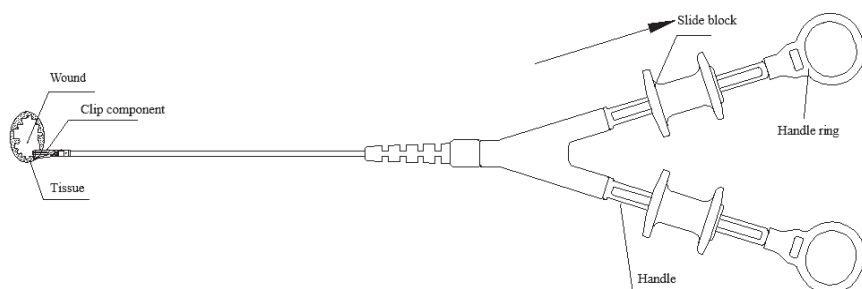

Fig 4 Clamping
- A. Close Disposable Dual Action Tissue Closure Device at the required position, and slowly move the slide block to the direction of the handle ring until there is resistance on the handle, so that Disposable Dual Action Tissue Closure Device is gradually closed, but not released; if it is found that the position is not good at this time, you can re-open the clip until the clamping of the tissue is completed. (as shown in Fig 4)